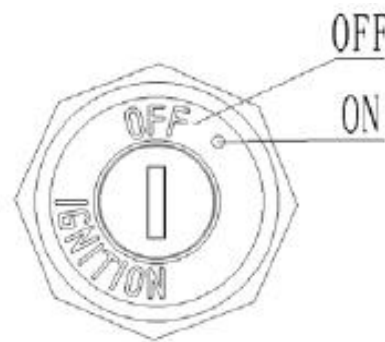

Fig 4 Key Switch
1.Insert the key into Key switch(figure 4),Turn the key clockwise to “ON” position. Gently pull up the Emergency stop switch(Figure1-7).and the control circuit opens.
switch (Figure 1.7), and pull out the key (Figure 4)
If there is any error or the car is not operate, Stop using and press the emergency stop switch(Figure 1.7).Parking the car in safe area if possible .Turn the key counterclockwise and remove the key(figure 4).Notify the manager or contact your after-sales service staff immediately .Use a special towing equipment /lifting equipment to pull the truck out of the operating area if necessary .
Park the car safely, Move the Mast forward to the appropriate distance, Turn off the car by key(Figure 4) and press the emergency stop switch(Figure 1.7) to open the battery cover ,Remove the battery connector .Then lift the battery from the top of the frame directly .Caution: If the lifting equipment is not safe. The battery may tip over .Installation is the opposite procedure of remove ,Please connect the positive terminal firstly .Otherwise the car is easy to damage